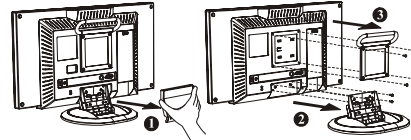

Figure 1-4
1. Remove the rear cover from neck ❶ (See Figure 1-4)
2. Unscrew screws of the hinge bracket ❷
3. Remove the stand from main body ❸